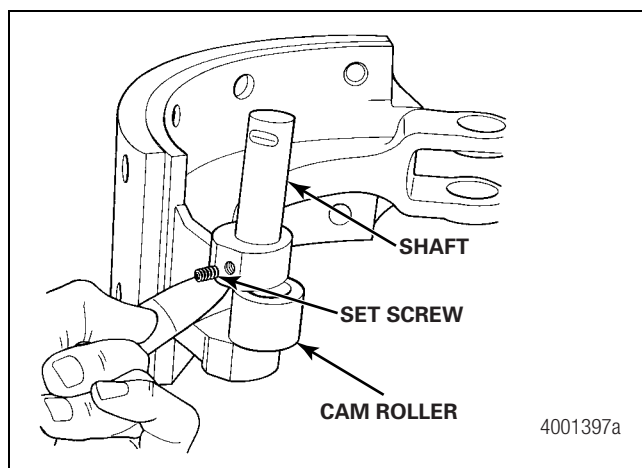

Figure 5.24
2. If removed, install the cam rollers into the shoe. Place the roller into the shoe. Install the shaft through the shoe and the roller. Align the set screw slot in the shaft with the hole in the shoe. Install and tighten the set screw. Figure 5.24.